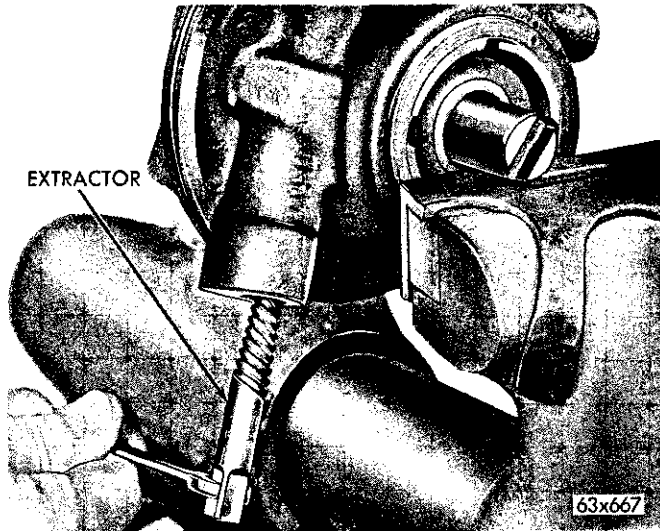

Fig. 8—Removing the Brass Ferrule
(7) Use a No. 4 screw-extractor (E-Z Out). Turn the extractor into the ferrule (Fig. 8), then rock the extractor slightly to remove the ferrule. Perform this operation carefully so as not to damage the threads on the housing.
(8) Clean out the discharge bore of any foreign material (brass chips, dirt, etc.).
(9) Center the new ferrule with the tapered end up in the housing bore. The ferrule is pressed into